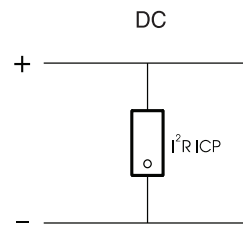

Figure 2
3. **Wiring the I²R ICP Series: Unplug suppressor module from base. Install 4-14 AWG into base per Figure 2 or 3 keeping leads as short as possible.**